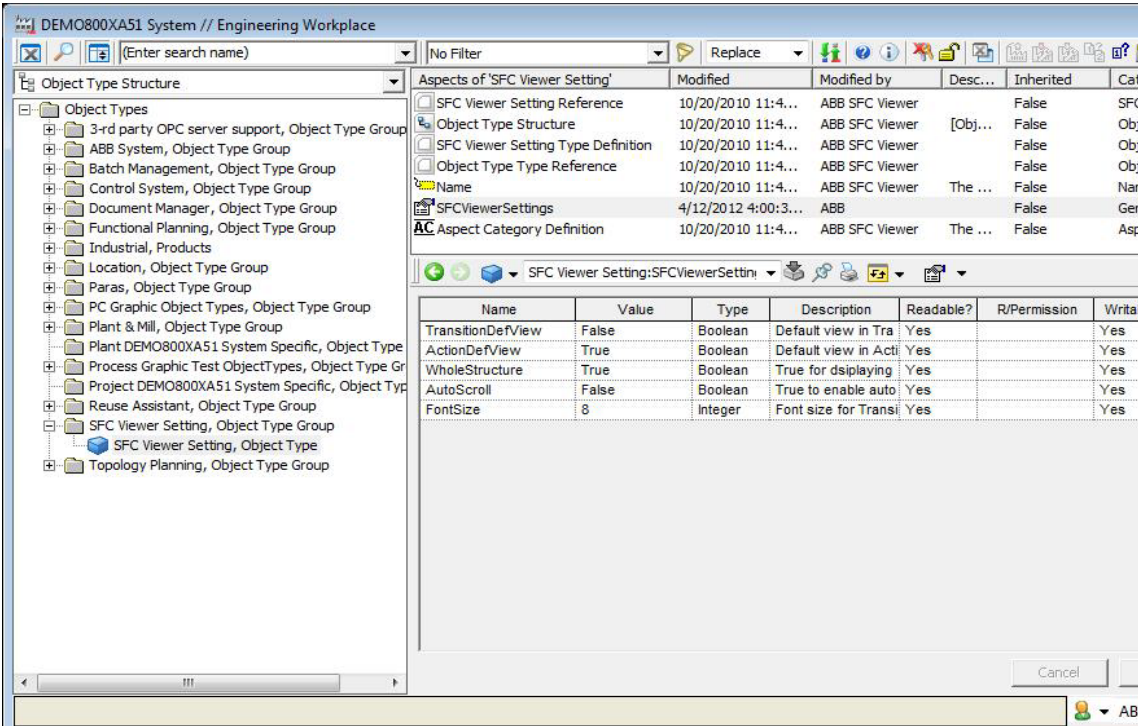

Figure 9. SFCViewerSettings aspect with TransitionDefView property
1. Open **Object Type Structure > SFC Viewer Setting > SFC Viewer Setting > SFCViewerSettings** aspect. See Figure 9.